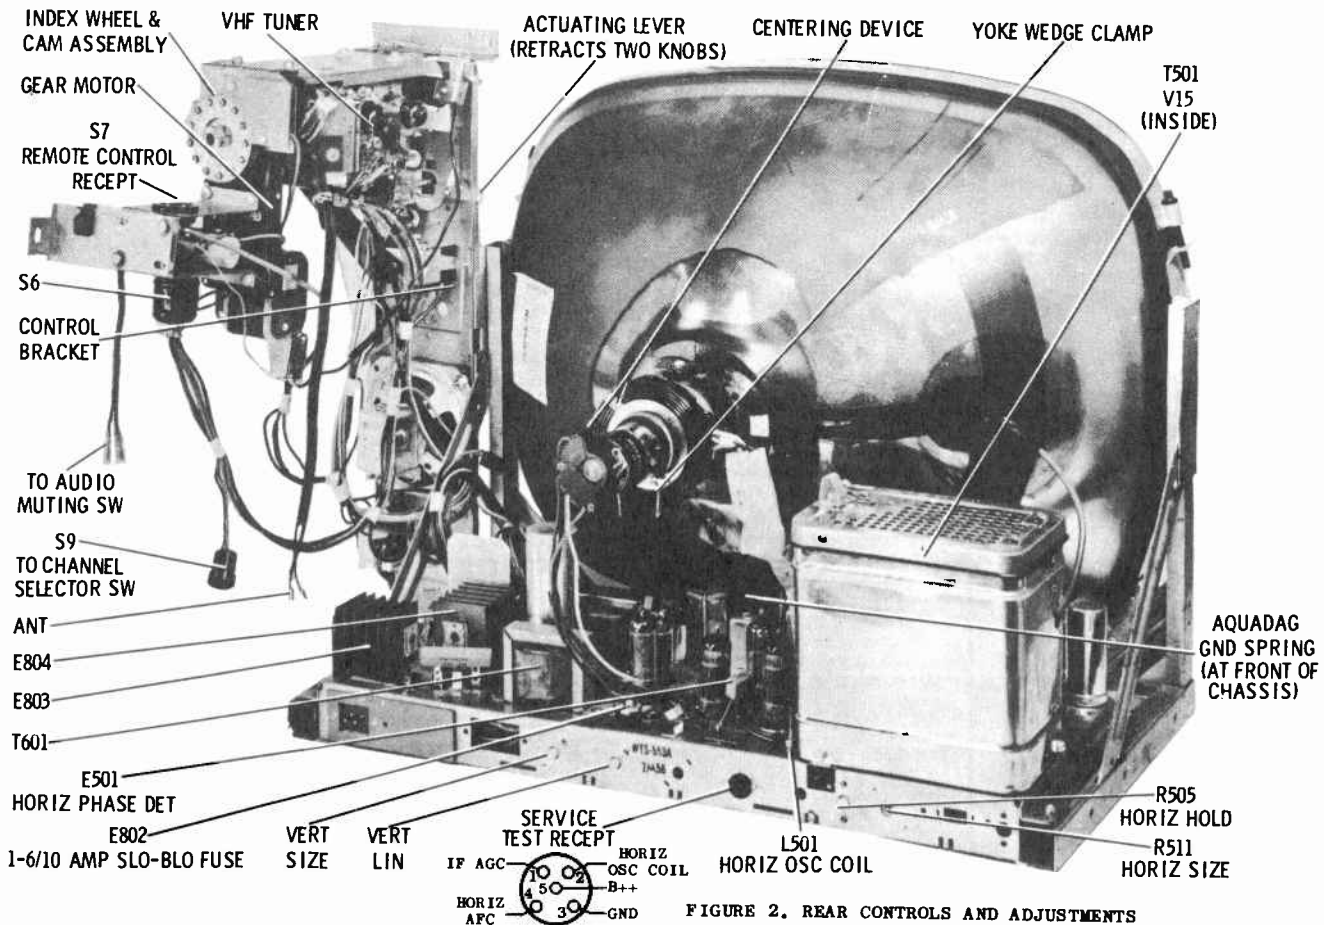

FIGURE 2. REAR CONTROLS AND ADJUSTMENTS
2. Using a piece of wire, short SERVICE TEST RECEPTACLE S-4 pin #4 labeled "HORIZ AFC" to ground. See Figure 2.